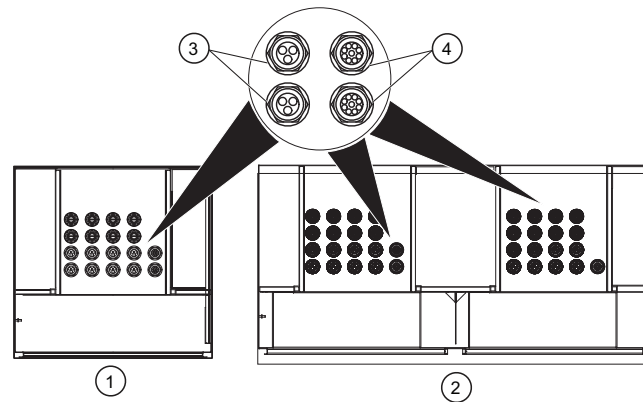

Figure 7 PDC Cable Connections
- Lamp Cabling and Field wiring - open the PDC door and locate the strain reliefs on the bottom of the PDC. (Figure 7).